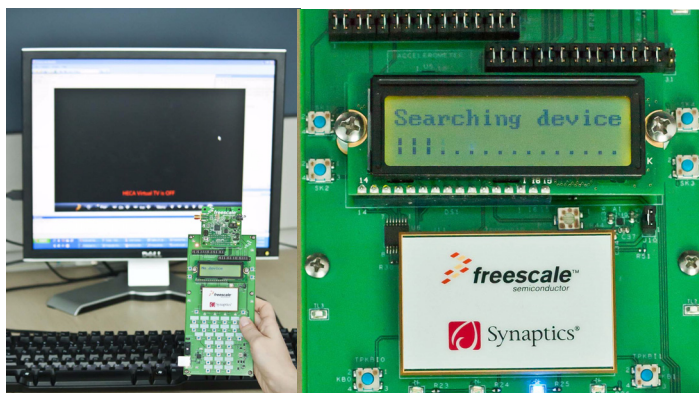

Figure 8. Initiating Push Button Pairing on 1323x-RCM
13. Initiate the RF4CE ZRC Push Button Pairing (PBP) on the 1323x-RCM by pressing and holding the SW18 (“Pair”) on the 1323x-RCM until the “Searching Device” message appears on the LCD. The LCD display shows a progress bar (Figure 8) while searching for a device to respond to the pairing
- Initiate the RF4CE ZRC Push Button Pairing (PBP) on the 1323x-RCM by holding the SW18 (“Pair”) on the 1323x-RCM until the “Searching Device” message appears on the LCD. The LCD shows a progress bar while searching for a device to respond to the pairing as shown in Figure 8.
6. Initiate the RF4CE ZRC Push Button Pairing (PBP) on the 1323x-RCM by holding the SW18 (“Pair”) on the 1323x-RCM until the “Searching Device” message appears on the LCD. The LCD shows a progress bar while searching for a device to respond to the pairing as shown in Figure 8.